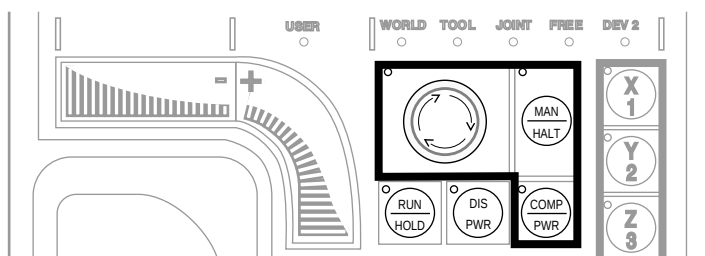

Figure 4-4. Mode Control Buttons
The system will remain in MCP Manual mode until High Power is turned off or the COMP/PWR button is pressed (see Figure 4-4).
- b. One of the manual state LEDs is also illuminated (the “Manual state” LEDs indicate the type of manual motion that has been selected, either World, Tool, Joint, or Free). Press the MAN/HALT button (see Figure 4-4) several times until the JOINT LED is illuminated.